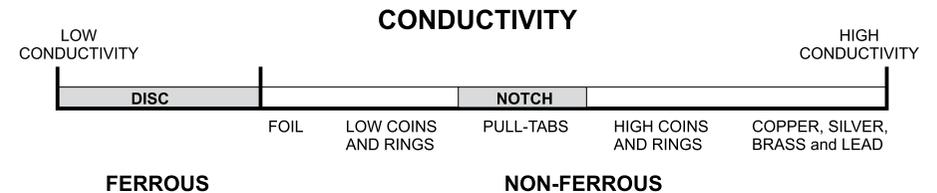
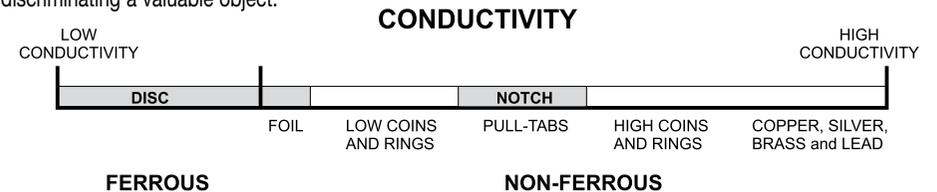

Figure 15 - Ignoring targets using the Notch control
Figure 16 - Ignoring targets using the Disc and Notch controls
**Note,** in Figure 15 the ferrous objects are being ignored due to the Disc. setting on zero.
When using the Notch and Disc controls in combination, most unwanted objects can be successfully ignored (see Figure 15). Turning the Notch control to ignore the pull-tab and the Disc control to ignore the aluminium foil will set up the Sovereign GT to ignore most pull-tabs and aluminium foil while still detecting most valuable non-ferrous objects (see figure 16).